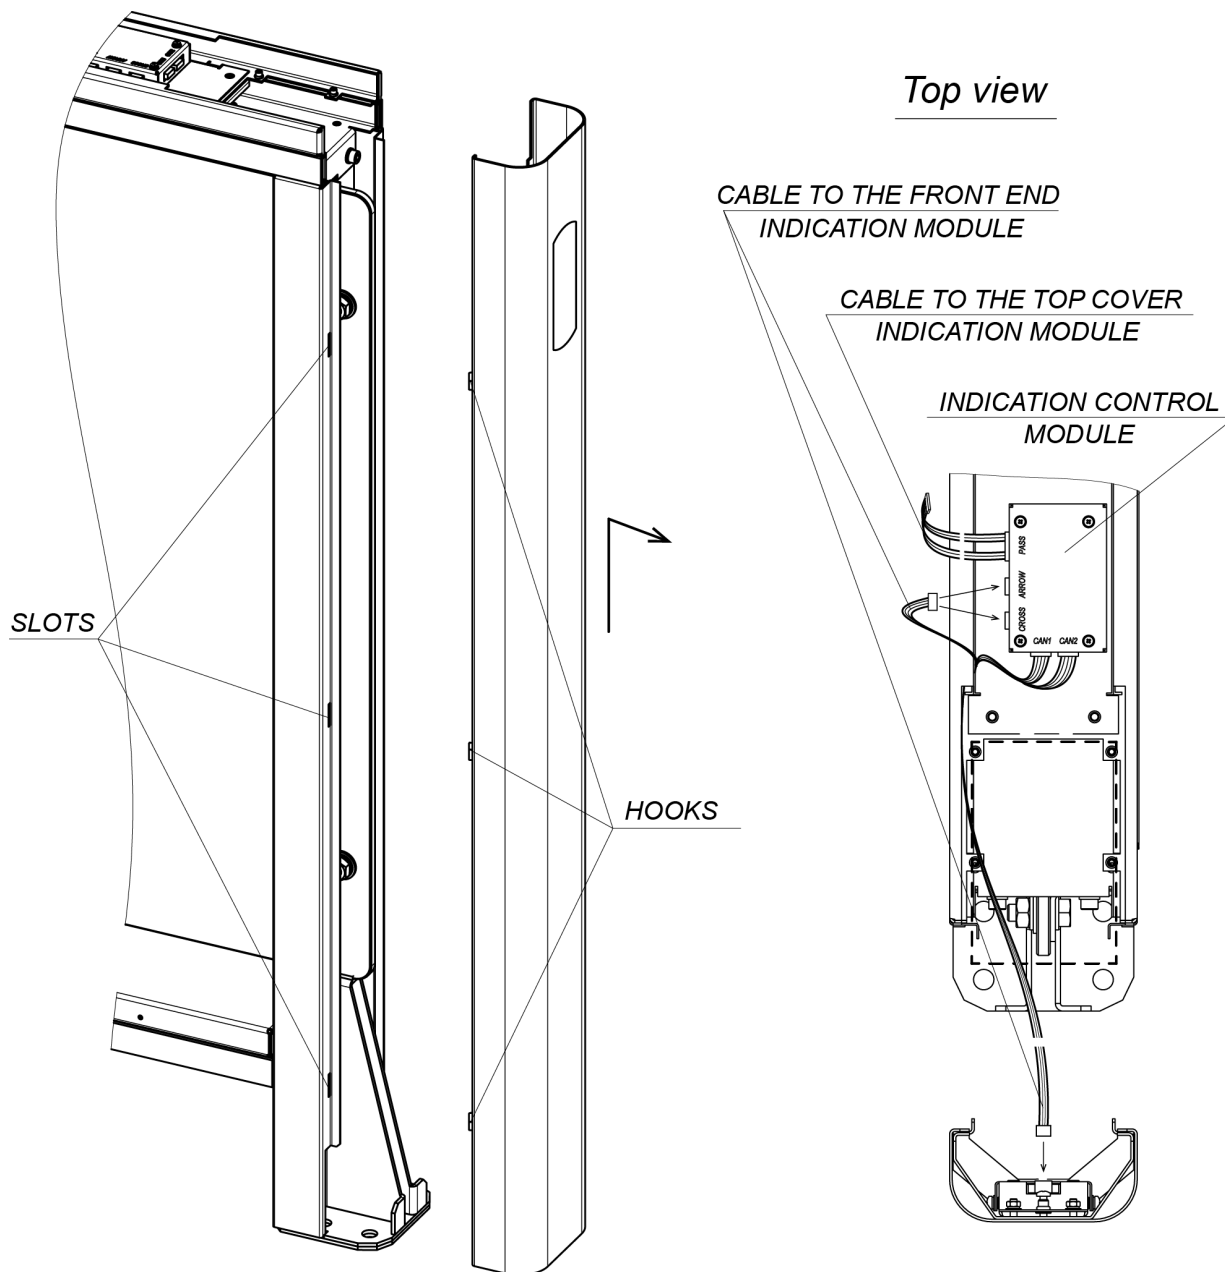

Figure 21. Side post front panel disassembly
22. Unpack the glass swing panels (1) and mount them (Fig. 21, Sect. 8.9.3).
23. Mount swing panel cover plate (4) from installation kit (Fig. 21, Sect. 8.9.4).
Two people shall install and remove the swing panels. The swing panel is fixed to the rotating support in three places with M10×30 bolts, 10 washers, plastic bushing and M10 screws (Fig. 21). Use S17 open end wrenches.
2. Assemble one of the cover plate components on the rotating support. In order to do that, mount the cover plate on the upper plate of the rotating support through the slots in the upper part of the cover plate. After that, shift the cover plate down to the end, mounting the bottom cover plate mortise into a tenon, located in the bottom part of the rotating support (Fig. 21).
Prior to installation of the section top cover (10), check whether all cables have been properly connected to the indication control module (see Fig. 21, Sect. 8.9.2).
- Connect the connection cable from the indication control module (“PASS” connector, Fig. 21) to the top cover indication block (for **STC-01G, SDC-01G**).
- Take one glass piece of the top cover featuring an indication block and connect the connection cable of the indication control module (“PASS” connector, Fig. 21) to the top cover indication block.